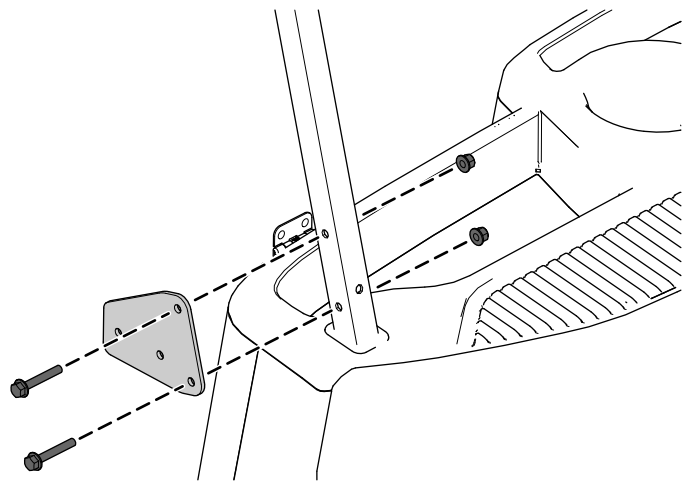
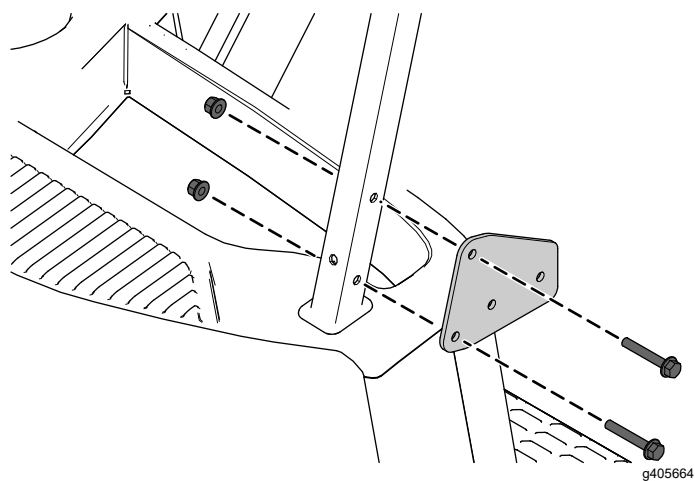

Figure 3
Figure 2
1. Secure the mirror mount to the canopy tube using 2 flange-head bolts (M6 x 40 mm) and 2 locknuts (6 mm) as shown in Figure 2 or Figure 3.